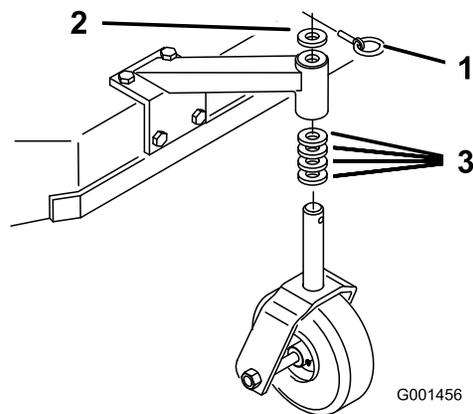

Figure 13
- Using the Height-of-Cut Chart, adjust the caster spacers to match with the axle hole selected (Figure 13).
- Remove the latch pin, slide the caster from the support, and change the spacers (Figure 13).
- Install the caster in the support and insert the latch pin (Figure 13).